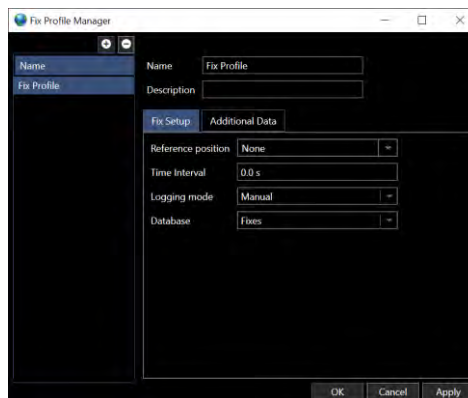

FIGURE 14-62 FIX PROFILE MANAGER DIALOG
3. Click the add button  to add a new profile, this displays the dialog to define the profile (see Figure 14-62).